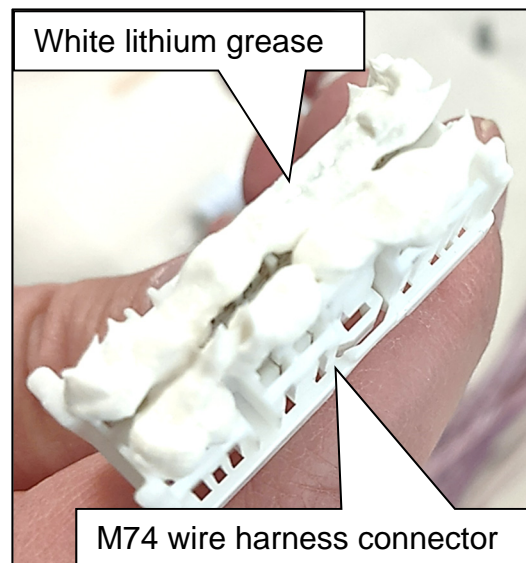

Figure 29
- Only add enough grease to coat the terminals, as shown in Figure 29.